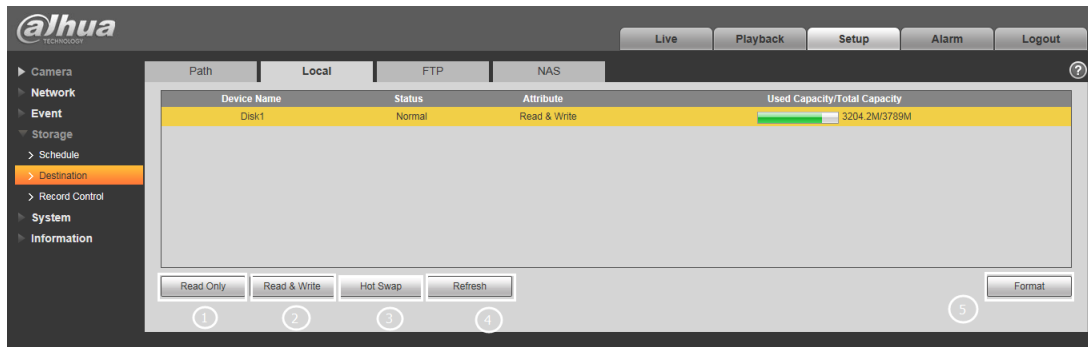

Figure 14-1
1) Enter 'Storage-Destination-Local' as Figure 14-1